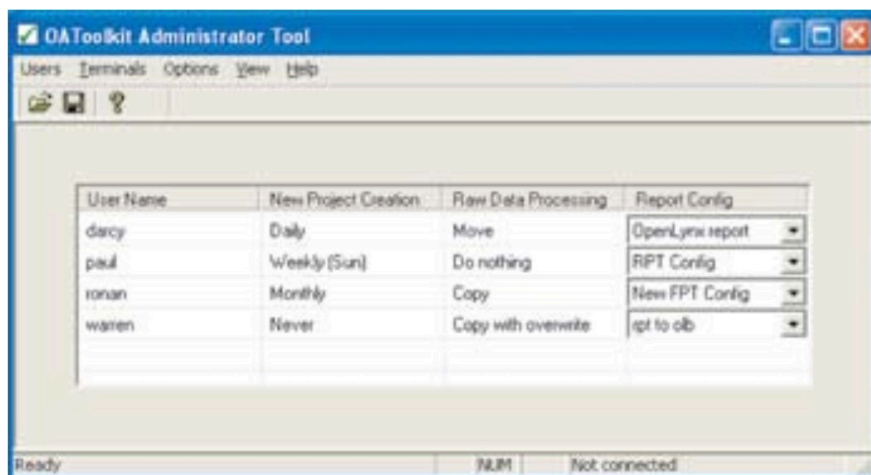

Figure 4. OpenLynx Toolkit Administrator Tool.
- Administration Tool (Figure 4) – Enables an administrator to create and manage all OpenLynx Open Access users from a single PC , and replicates that information to multiple OpenLynx Open Access PC s and Acquisition PC s